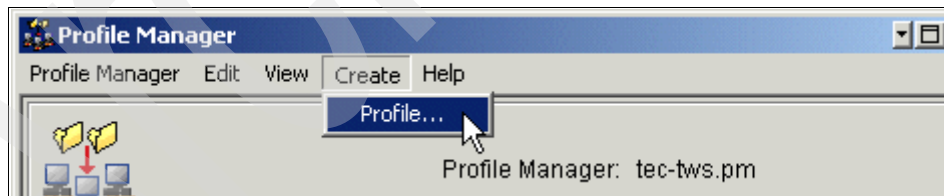

Figure 8-31 Adding an ACP profile to the tec-tws.pm profile manager
11. Add an ACP profile to hold the TEC logfile adapter. Select **Create** → **Profile...** as shown in Figure 8-31.